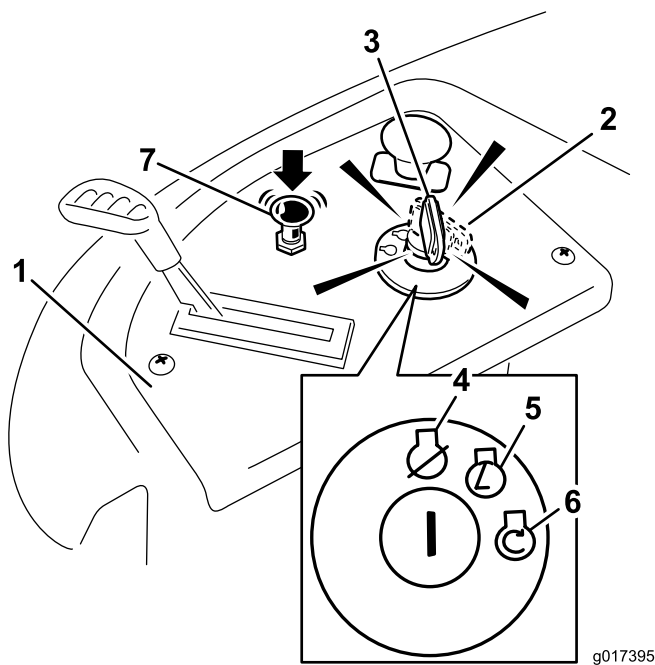

Figure 13
4. Turn the ignition key to Start to energize the starter (Figure 13).
5. After the engine starts, push down on the Choke control (Figure 13).
4. Turn the ignition key to Off (Figure 13) and remove the key.